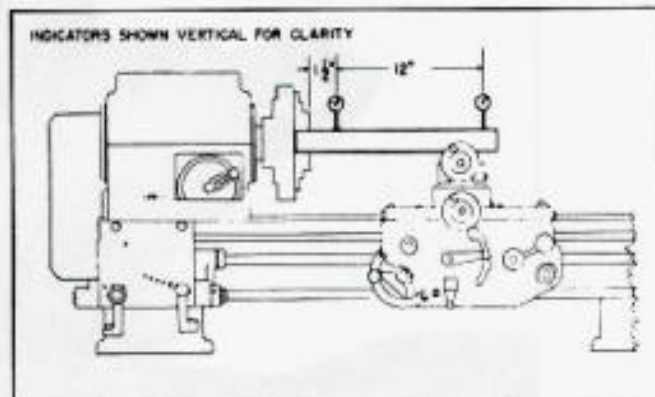

Fig. 13.
2. True up the test bar by indicating 1 1/2" and 13 1/2" from the chuck. Rotate the test bar against an indicator at these positions, see Fig. 13. The total indicator reading should not exceed .0005 at either spot.